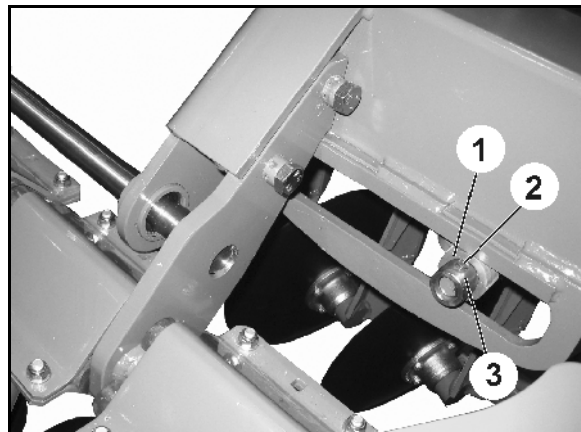

Fig. 37
To replace the roller (Fig. 37/1), place the folded-out machine down so that the roller is free from tension.
1. Release screw union (Fig. 37/2).
2. Withdraw sleeve (Fig. 37/3).